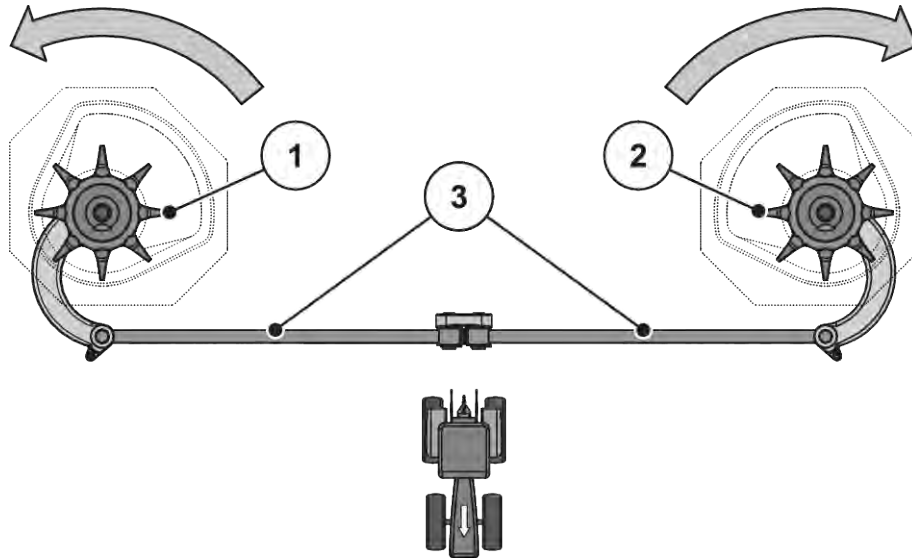

Fig. 60: Checking the agitator drive
► Manually turn the agitator head **into the rotational direction of the spreading disc**. See Fig. 60 Checking the agitator drive.
► Turn the agitator head manually or with the help of an oil filter belt forcefully **against the rotational direction of the spreading disc**. See Fig. 60 Checking the agitator drive